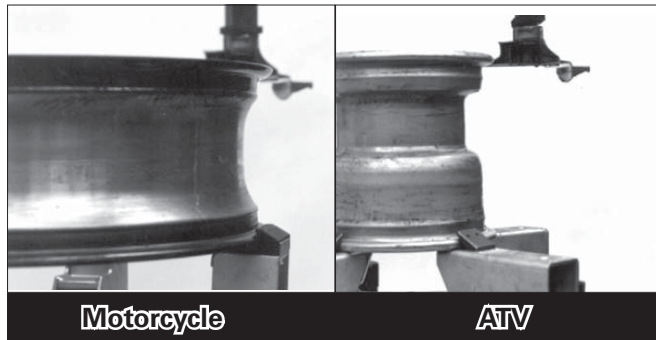

Figure 12 - Inspect and Clean the Wheel
1. Inspect the wheel closely for damage. Clean the wheel and remove any light corrosion or rubber residue (Figure 12). Do not attempt to service heavily corroded wheels.
2. Inspect tire for damage, paying close attention to the beads. Verify size match between tire and wheel (Figure 12).